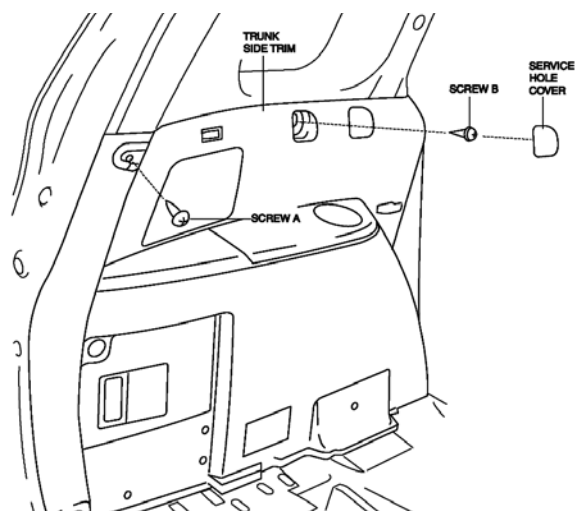

FIGURE 44
- 1.) REMOVE SCREWS A. (SEE FIGURE 44)
- 2.) REMOVE THE SERVICE HOLE COVER, THEN REMOVE SCREW B. (SEE FIGURE 44)